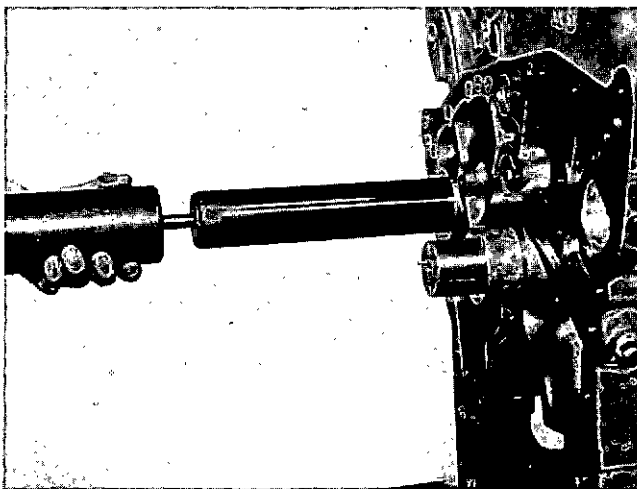

Fig. 1-1-14, V40128. Installing camshaft bushing
4. Drive in position so oil holes are open, Fig. 1-1-14.